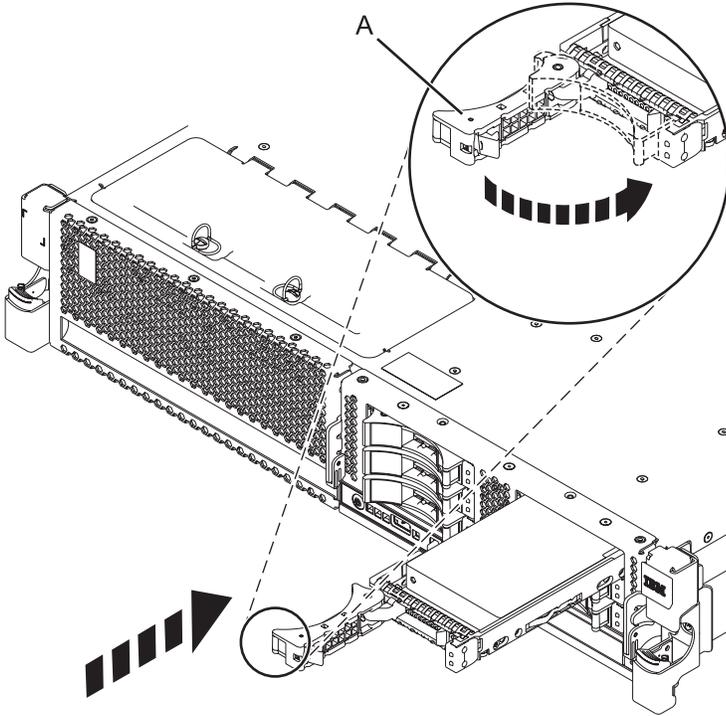

Figure 1. Installing the disk drive in the system
6. When the identify LED turns on solid, slide the drive all the way into the system or an expansion unit, and push the drive handle **(A)** in until it locks. See Figure 1 on page 8.